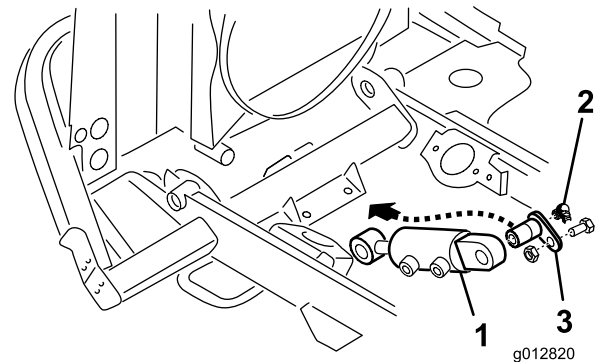
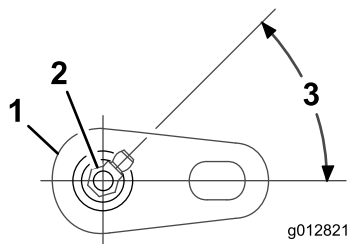

Figure 12
Figure 13
15. Mount the stationary end of the hydraulic cylinder to the underside of the frame cross member bracket with a pivot pin (Figure 12).
16. Secure the pivot pin to the frame bracket with a screw (3/8 x 1-1/4 inch) and a flange nut (3/8), positioning as shown in Figure 12.
17. Thread a 90 degree grease fitting into the end of the pivot pin (Figure 12). Position the grease fitting as shown in Figure 13.